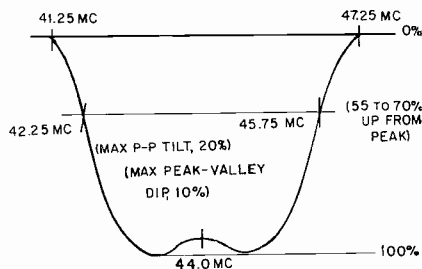

FIG. 6- OVERALL I-F RESPONSE CURVE
18. Re-adjust generator output to produce a 0.2 volt P-P indication on the scope and observe the response. The curve obtained should conform to Fig. 6.